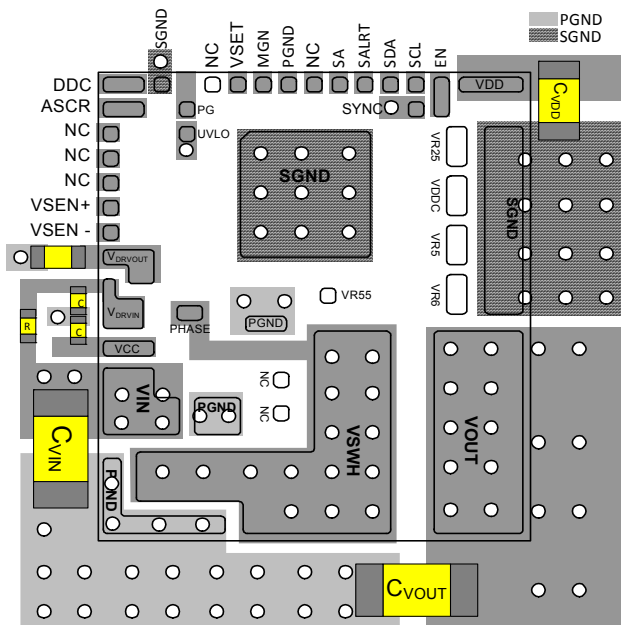

FIGURE 29. RECOMMENDED LAYOUT - TOP PCB LAYER
- For  $V_{\text{DD}} > 6\text{V}$ , the recommended PCB layout is shown in Figure 29. Leave V25,  $V_{\text{DDC}}$ , VR5, and VR6 as “No Connect (NC)”.